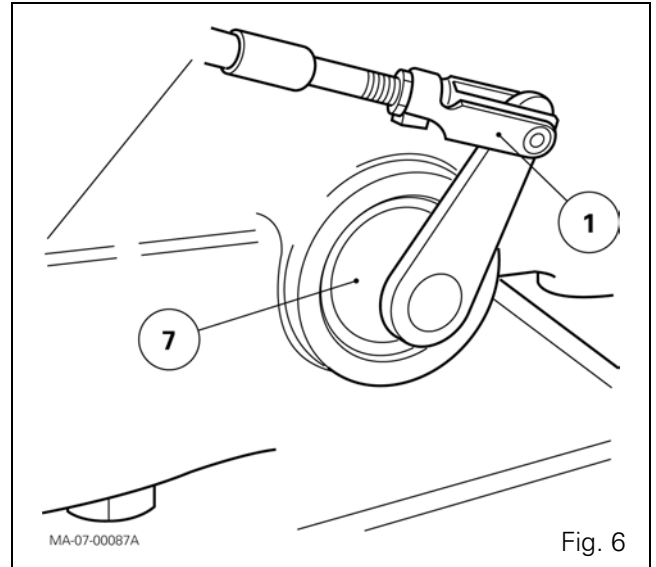

Fig. 6
5. Disconnect the control cable (1) and remove the link (7) (Fig. 6).